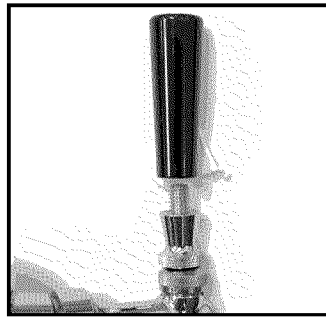

Fig. 06
1. Screw the black faucet knob onto the faucet (Fig. 06).